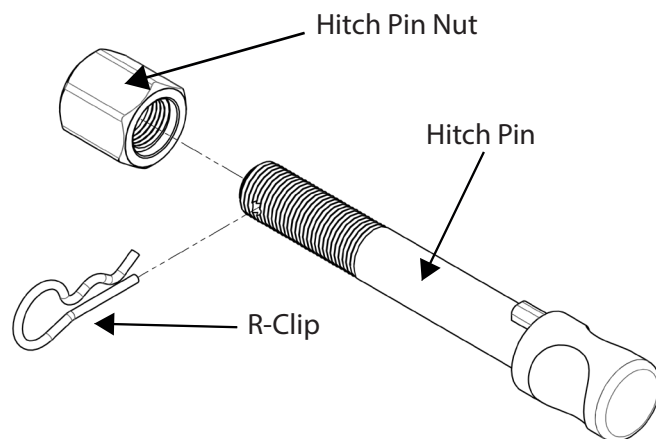

Fig 1. Silent Anti-Rattle Hitch Pin assembly
3. Fit loose angle mounting brackets to under side of rear cross member using four M10x30 taptite bolts supplied. Semi tight as shown in fig 1.
Install HITCH PIN R CLIP through the hole on the HITCH PIN (Fig. 1).